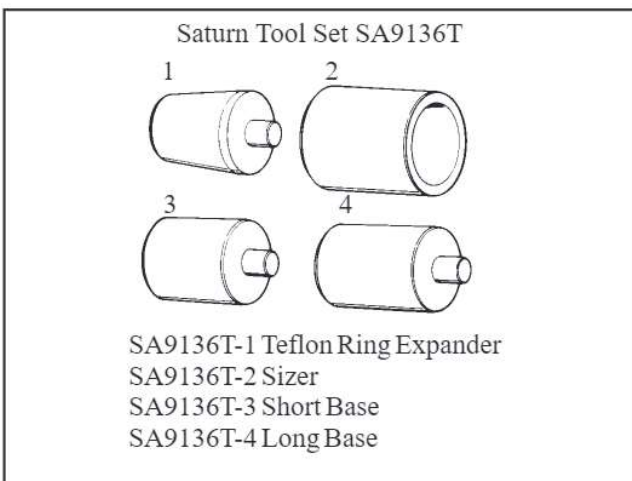
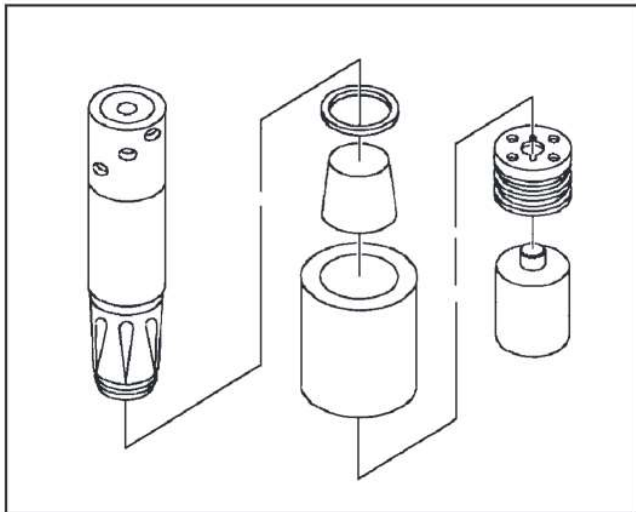

Figure 162
Figure 163
1. Using Saturn's seal installation tool or equivalent (See Figure 162), install new sealing rings onto the 1st clutch flange (See Figure 163).
2. Place the hub with retaining bolt threads facing up on the TALL support tool SA9136T-4 (See Figure 163).
3. Place Sizer SA9136T-2 over the hub, with the large internal diameter down, to act as a seal stop (See Figure 163).
4. Install the expander cone SA9136T-1 on the hub and place the sealing ring onto the cone (See Figure 163).
5. Use the pusher SA9143T to install the ring (See Figure 163).